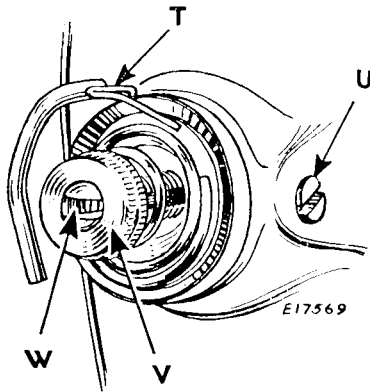

FIG. 19. TIMING AND ADJUSTMENT OF THREAD TAKE-UP SPRING
The thread take-up spring (T, Fig. 19) should be set so that when the eye of the needle reaches the material on the downward stroke of the needle bar, the spring will be through acting and will rest against the stop on the thread take-up spring regulator.
If the thread take-up spring is not correctly set, loosen the set screw (U, Fig. 19) in the arm of the machine, and turn the tension screw stud (W, Fig. 19) clockwise to retard the movement of the spring, or counter-clockwise to advance this movement. When the spring is correctly set, securely tighten the set screw (U).